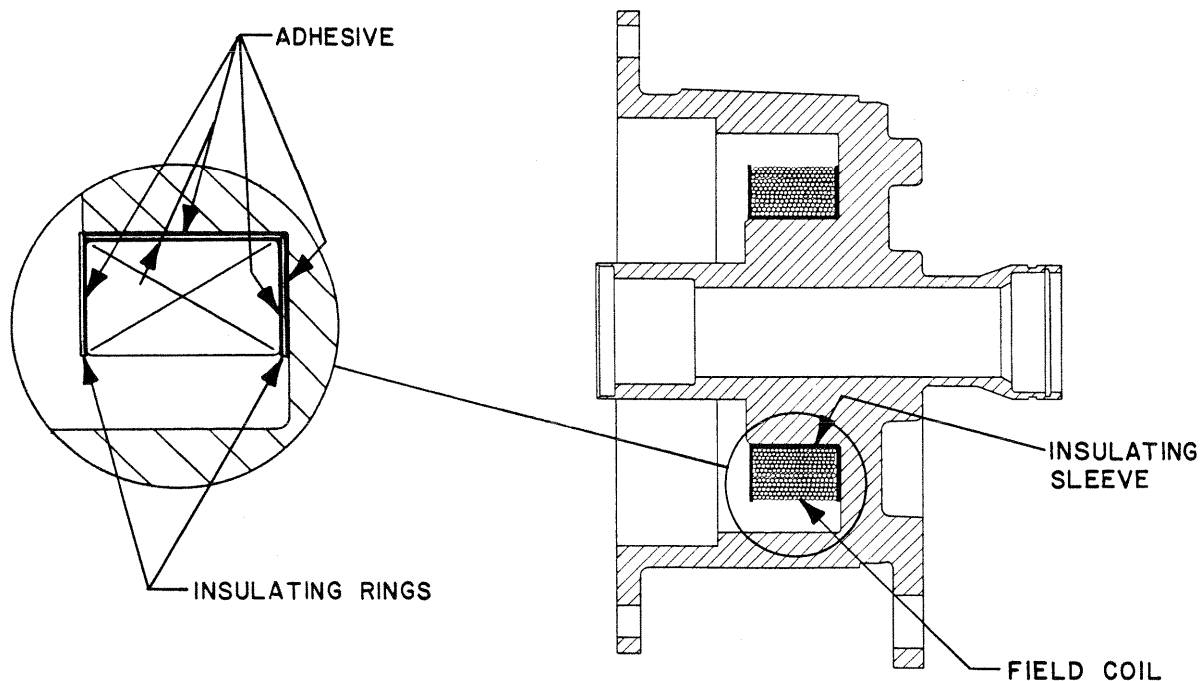

FIG. 10
K. FIELD COIL INSTALLATION (See Fig. 10)